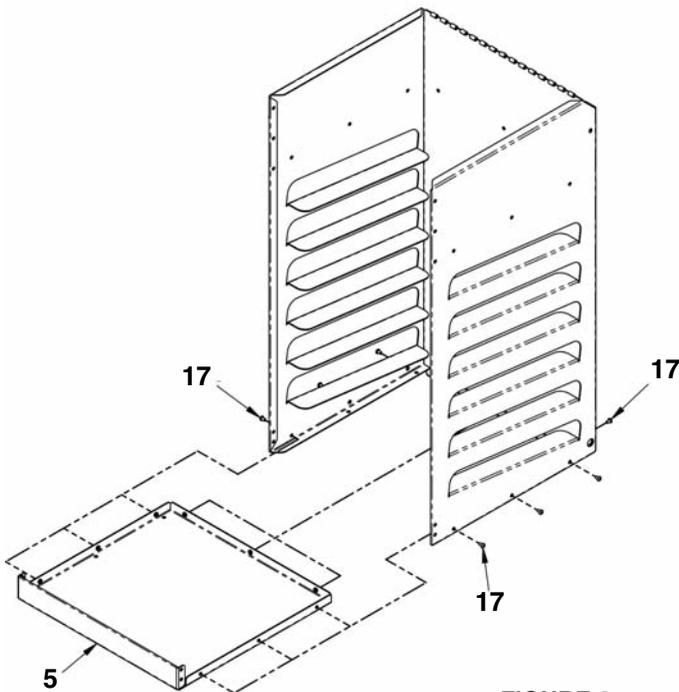

FIGURE 3
3. Flip the assembly over onto the rear panel with the side panels facing up. Slide the lower shelf (#7) in between the side panels as shown in figure 3. Secure the side panel to the lower shelf with six #10-32 x 5/16" screws (#17). Do not fully tighten.